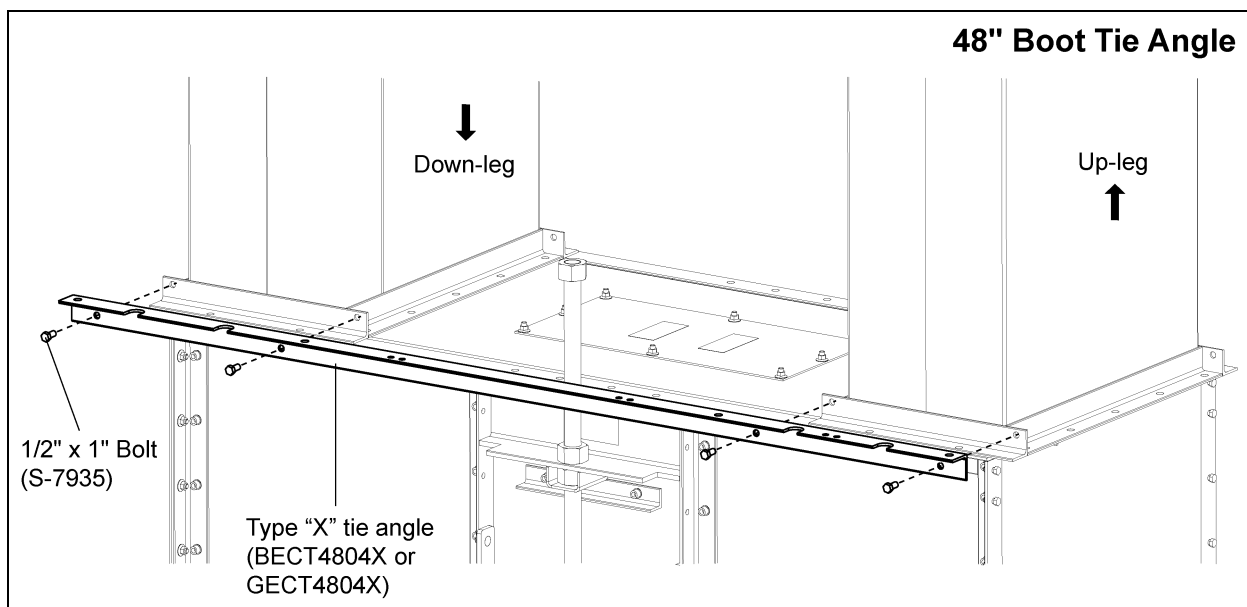

Figure 6B 48" Boot Tie Angle
- b. **For 48" Boot Tie Angle:** Install the tie angle (GECT4804X or BECT4804X) to both sides of the trunking attached at the boot using 1/2" x 1" HHCS bolts (S-7935) and 1/2" flange nuts (S-8506). (See Figure 6B.)